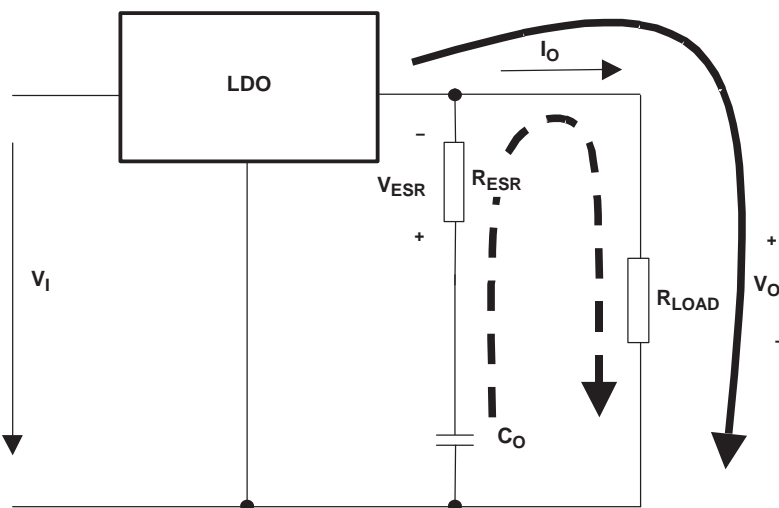
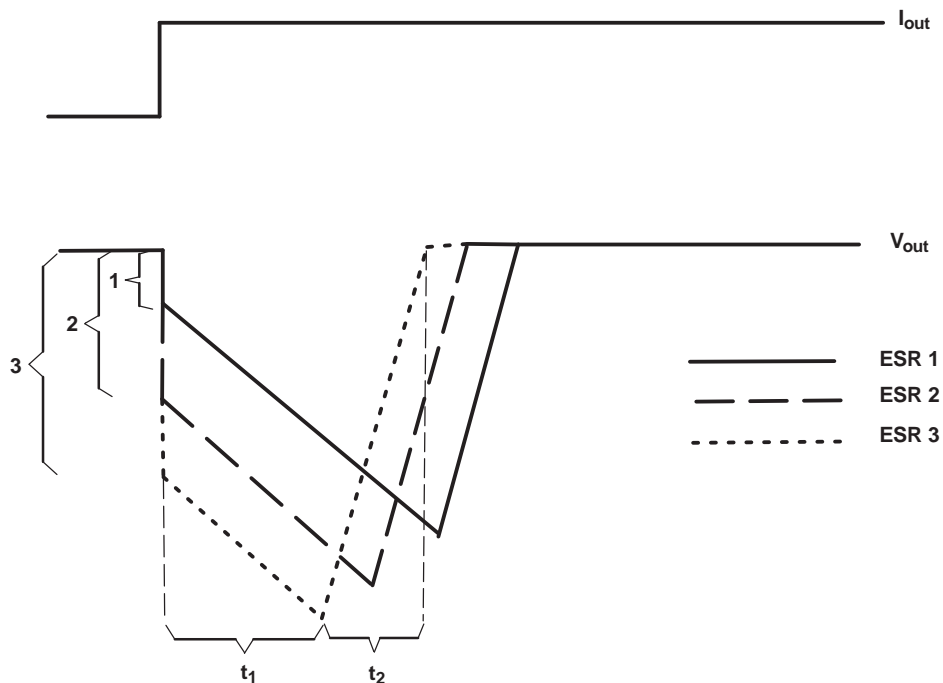

Figure 22. LDO Output Stage With Parasitic Resistances ESR
Figure 23. Correlation of Different ESRs and Their Influence to the Regulation of  $V_{out}$  at a Load Step From Low-to-High Output Current
Figure 22 shows the output capacitor and its parasitic impedances in a typical LDO output stage.
- The LDO is not able to supply the sudden current need due to its response time ( $t_1$  in Figure 23). Therefore, capacitor  $C_{out}$  provides the current for the new load condition (dashed arrow).  $C_{out}$  now acts like a battery with an internal resistance, ESR. Depending on the current demand at the output, a voltage drop will occur at  $R_{ESR}$ . This voltage is shown as  $V_{ESR}$  in Figure 22.
- When  $C_{out}$  is conducting current to the load, initial voltage at the load is  $V_{out} = V_{C_{out}} - V_{ESR}$ . Due to the discharge of  $C_{out}$ , the output voltage  $V_{out}$  drops continuously until the response time  $t_1$  of the LDO is reached and the LDO resumes supplying the load. From this point, the output voltage starts rising again until it reaches the regulated voltage. This period is shown as  $t_2$  in Figure 23.